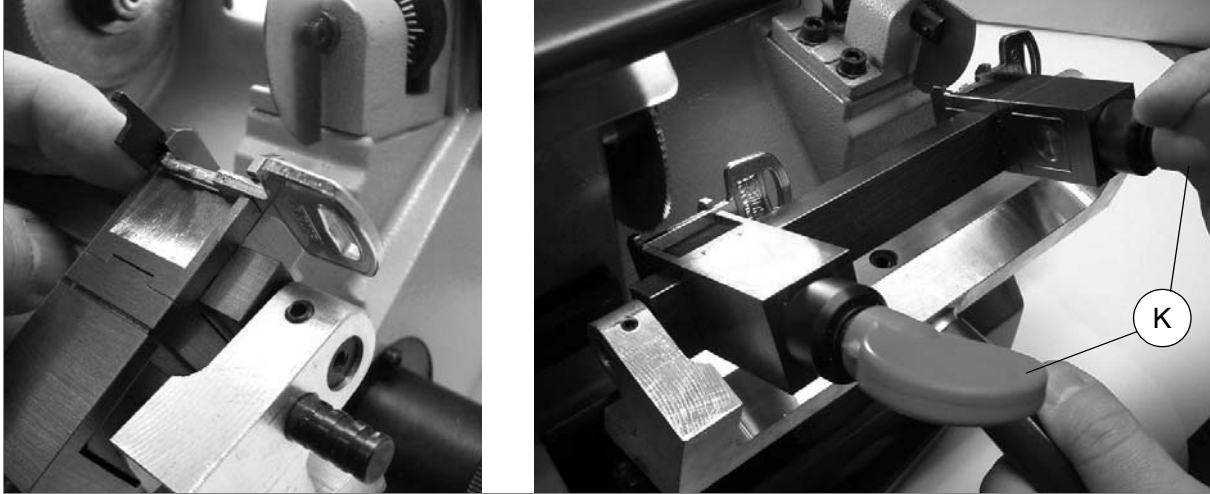

Fig. 57
Loosen the knob (K) in order to raise the lower jaw manually (fig. 57) and place the key in position as follows:
- the reference for the key relates to the tip, up against the tracer point (original key) and up against the cutter (key blank) or use the stop bar up against the external left-hand side of the clamp (fig. 57).